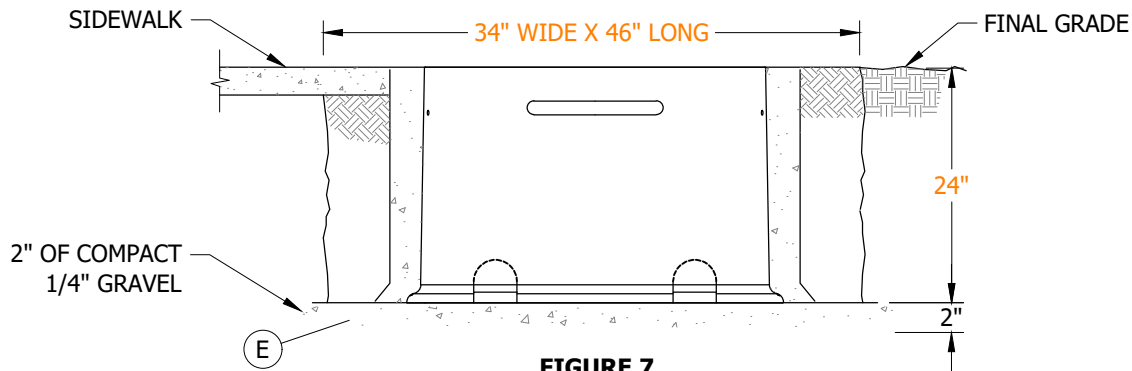

FIGURE 7
- B. AFTER THE LOCATION IS ESTABLISHED, MARK OUT DIMENSIONS FOR THE EXCAVATION WIDTH, LENGTH, AND DEPTH PER FIGURES 7 AND 8 ABOVE. THE WIDTH AND LENGTH DIMENSIONS GIVEN ALLOW EXTRA SPACE FOR SETTING THE SUBSTRUCTURE AND TAMPING THE BACKFILL.